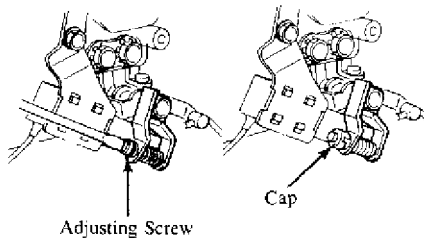

Fig. 6: Throttle Sensor Adjusting Positions
- \* Remove the cap from the adjusting screw. See Fig. 6.